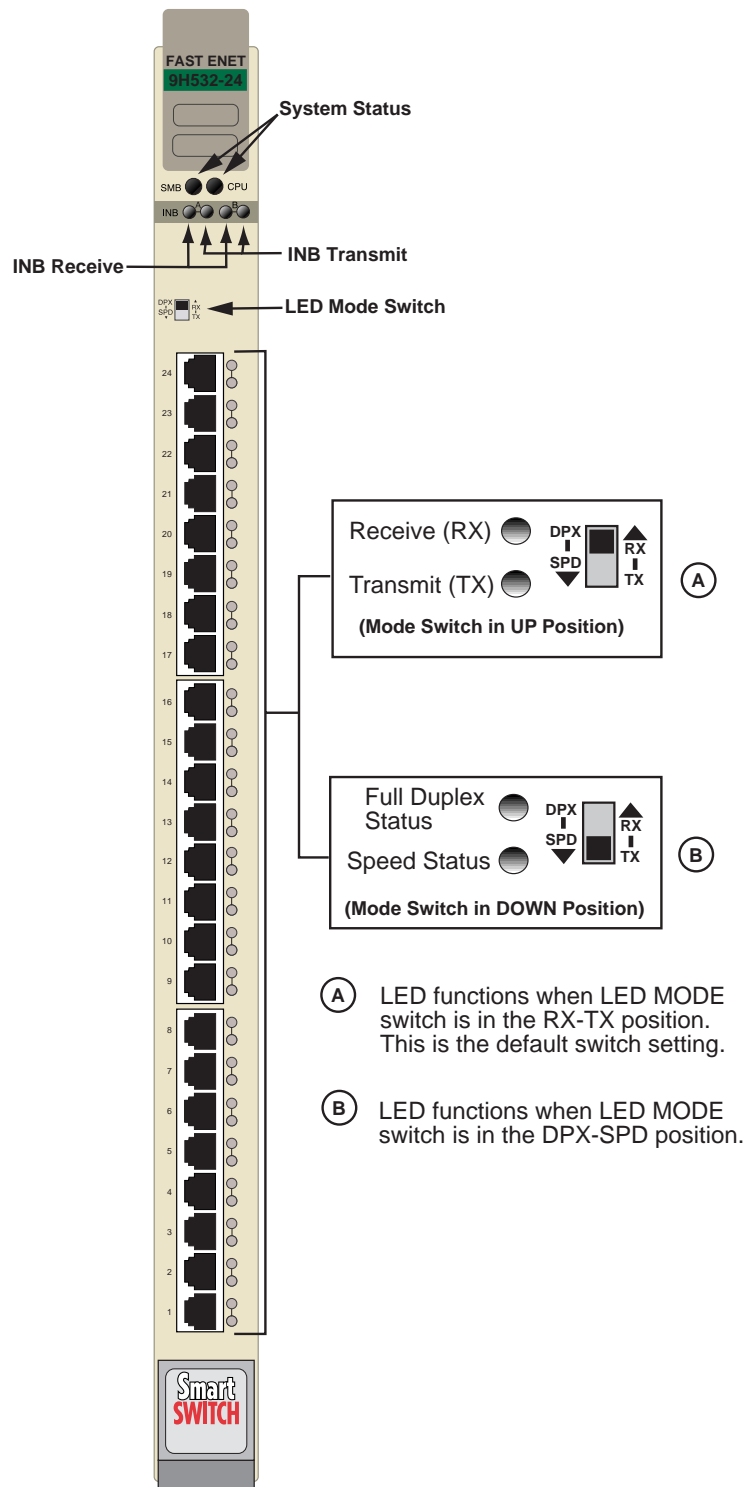

Figure 4-1. The LANVIEW LEDs (9H532-24 shown) and LED Mode Switch
The front panel LANVIEW LEDs indicate the status of the module and may be used as an aid in troubleshooting. Figure 4-1 shows the LANVIEW LEDs of the 9H532-24, 9H533-24, 9H531-24 and 9H539-24 module.
The 9H532-24 and 9H533-24 have an LED mode switch, located on the front panel, that allows the user to change the function of the switch port LEDs. Refer to Figure 4-1. When the switch is in the UP position, the LEDs indicate the receive (RX) and transmit (TX) status of the fixed ports. When the mode switch is in the DOWN position, the LEDs indicate at what speed the applicable port is currently operating (10 Mbps or 100 Mbps) and if the applicable port is operating in standard (half) or full duplex mode.